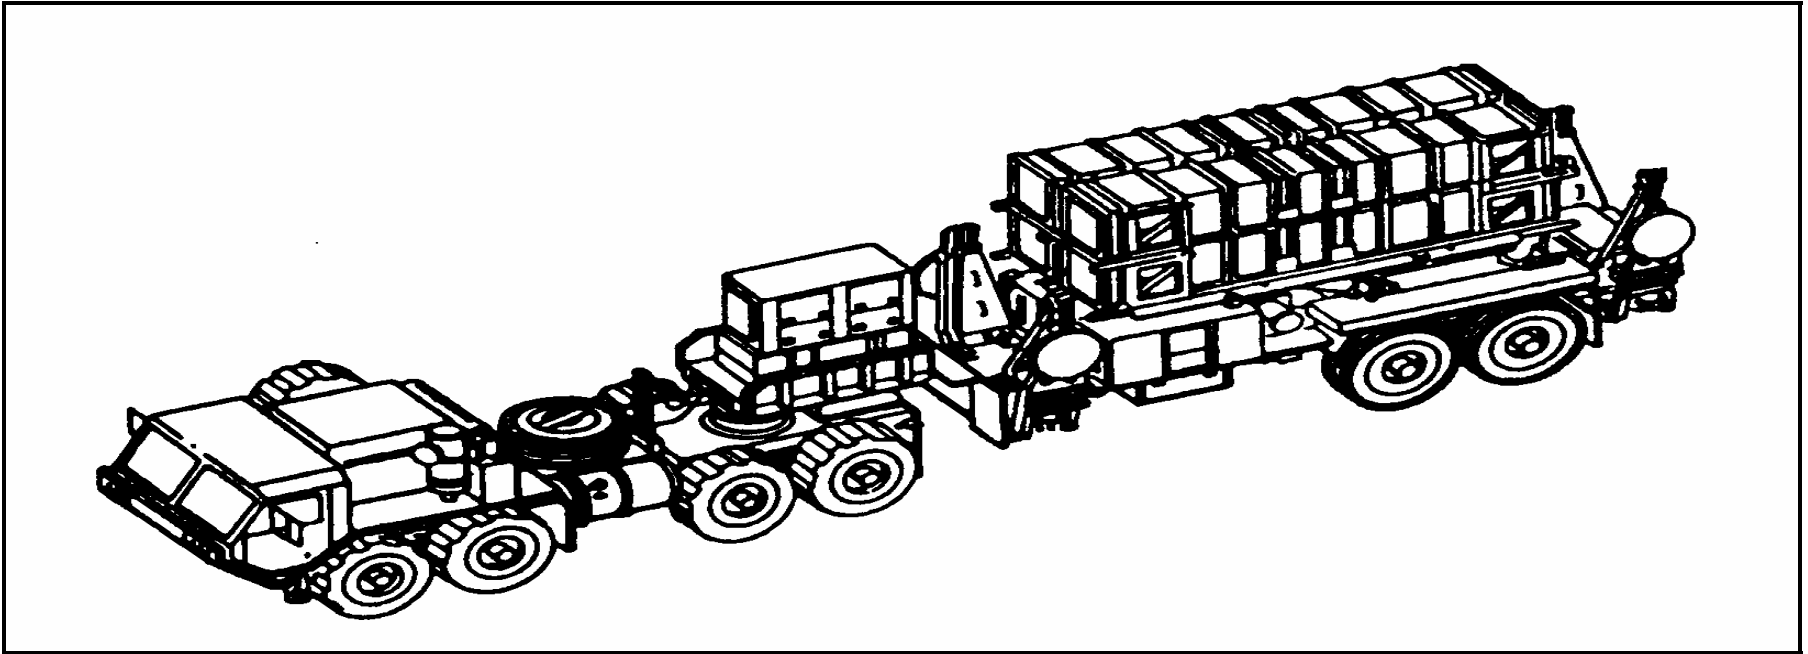

Figure 2-16. PAC-3 LS in March Order Configuration.
ILLUSTRATIONS: Figure 2-16.
(1) Using a diagram, Figure 2-16, a sand table, or a simple sketch in the dirt, show the crew members how the LS should be march ordered.
(2) Tell the crew members what their duties are in the drill.
(3) Read the performance measures of the drill to the crew members.
(4) Have crew members explain their performance measures to ensure that they understand them.